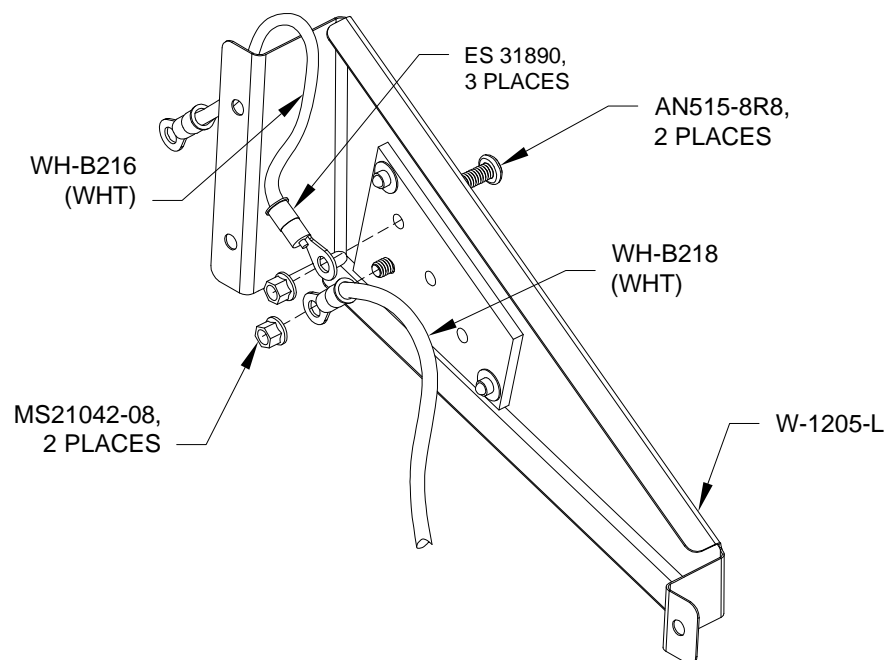

FIGURE 2: ATTACHING WIRES TO TERMINAL BRACKET
Step 3: Take the inboard end of the WH-B218 (WHT) Terminal Wire and attach a connector as shown in Figure 2. Ensure that the connector is properly installed.
Step 4: Make two WH-B216 (WHT) Terminal Ground Wires by cutting #18 wire to 5" lengths and attaching a connector to each end as shown in Figure 2.
Step 5: Attach the WH-B218 (WHT) Terminal Wire and one of the WH-B216 (WHT) Terminal Ground Wires to the W-1205-L Terminal Bracket as shown in Figure 2.
Step 6: Attach the second WH-B216 (WHT) Terminal Ground Wire to the W-1205-R Terminal Bracket as shown in Figure 2.